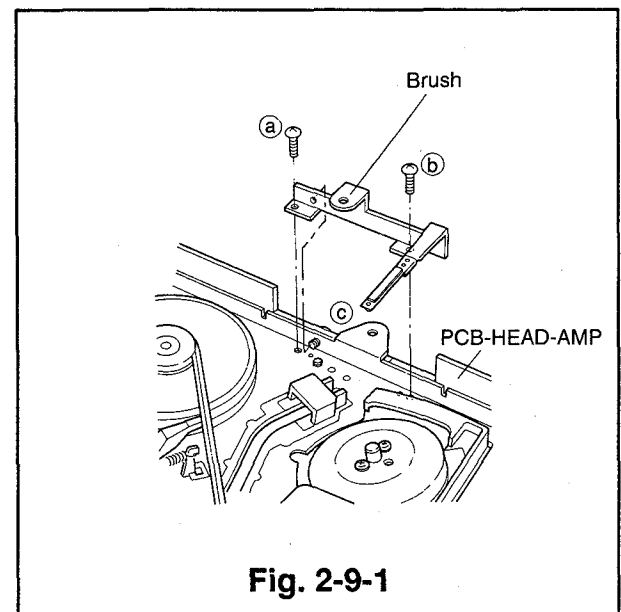

Fig. 2-9-1
2-9 Brush (Refer to the Fig.2-9-1.)
- ① Attach the brush on the position shown in Fig. 2-9-1 and secure it with the screws a and b. Tighten screw c.